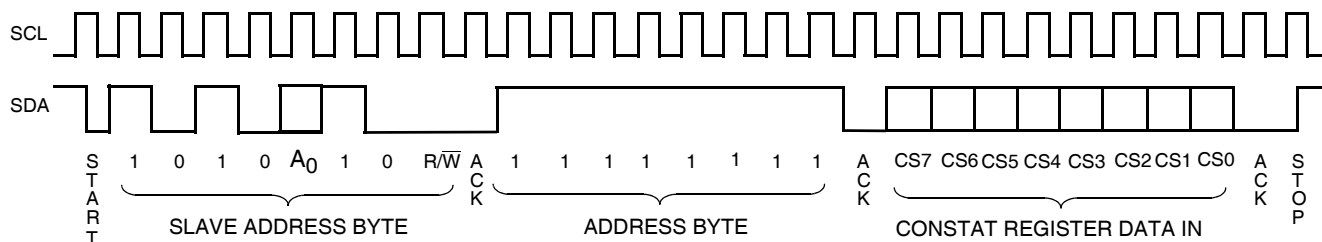

Figure 18. CONSTAT Register Write Command Sequence
Writes to the WEL bit do not cause an internal high voltage write cycle. Therefore, the device is ready for another operation immediately after a STOP condition is executed in the CONSTAT Write command sequence (See Figure 18).
- After a successful write operation to any bits of the CONSTAT register has been completed (See Figure 18).
Only one data byte is allowed to be written for each CONSTAT register Write operation. The user must issue a STOP, after sending this byte to the register, to initiate the nonvolatile cycle that stores the BP1 and BP0 bits. The X9525 will not ACKNOWLEDGE any data bytes written after the first byte is entered (Refer to Figure 18.).